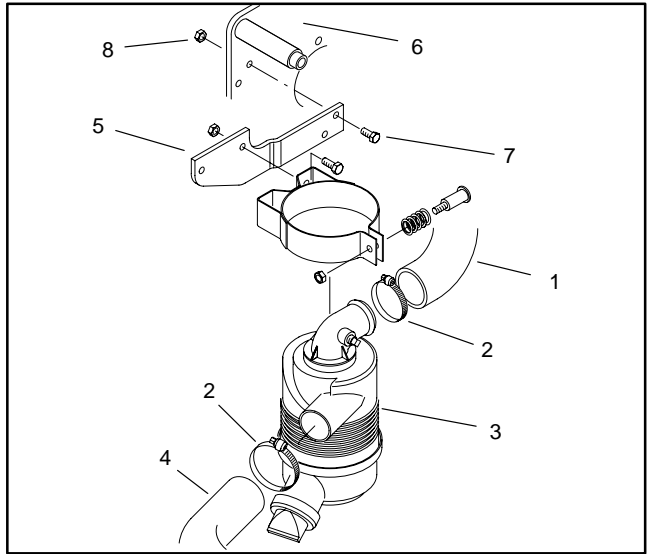

Figure 23
9. Remove air cleaner as follows (Fig. 23):